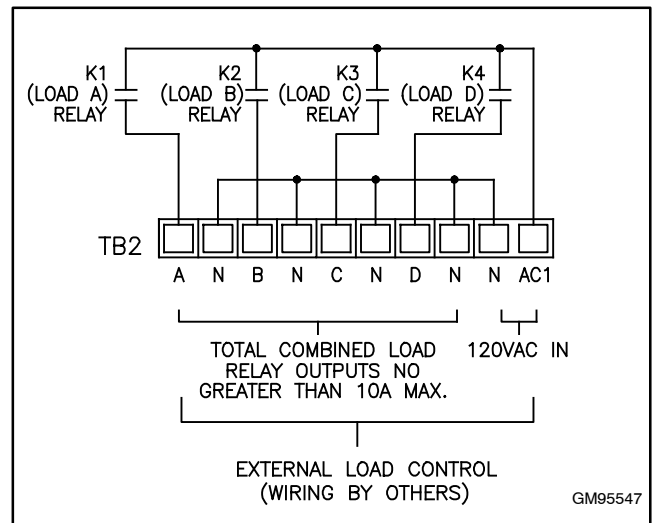

Figure 2-23 Power Relay Circuit on the Combined Interface/Load Management Board
Connect the customer-provided load relays to terminal block TB2 for Loads A, B, C, and D. See Figure 2-23 for the connections. See Section 2.7.1 for the recommended relay specifications.
10. Connect 120 VAC power to TB2 connections AC1 and N. See Figure 2-23. Connect 120 VAC line voltage to terminal AC1. Connect the neutral to N. The power to this circuit must be backed up by the generator set and not be part of a sheddable circuit.